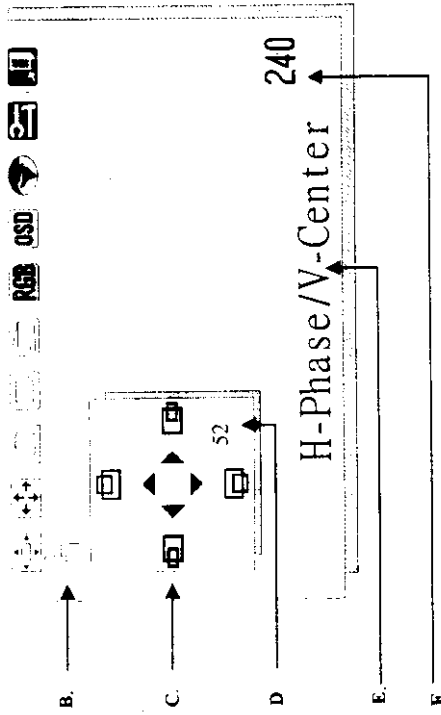

Figure 7 Function Menu
1) Press "Menu" key to enter the OSD menu containing 10 functions as shown in figure 7.
Figure 7 for advanced operation.
(Please refer to the figure 7)